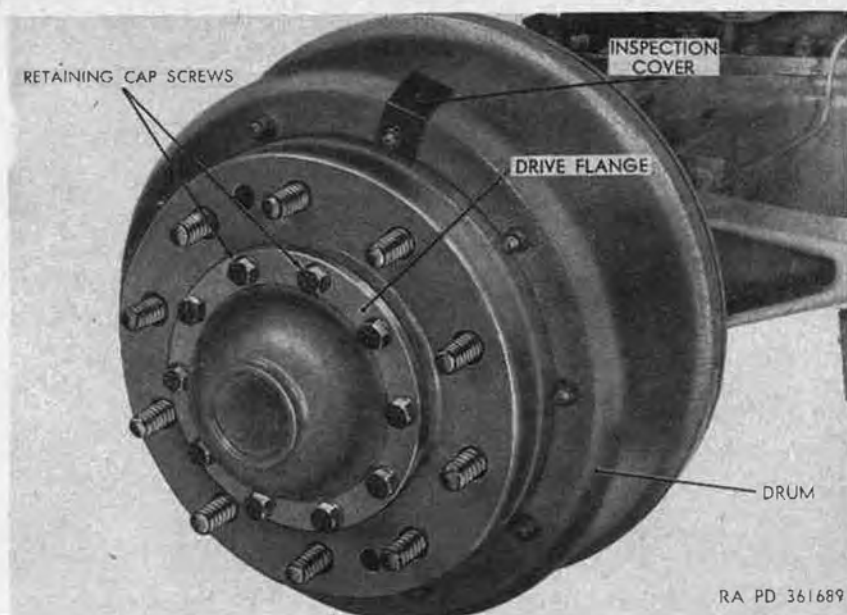

Figure 241. Hub and drum assembly with wheel and tire assembly removed.
- (1) With wheel and tire assembly removed, remove nut and lockwasher from stud securing inspection cover (fig. 241) to brake drum, and remove cover.
- (8) Position inspection cover (fig. 241), on brake drum stud, install lock washer and nut on stud and tighten nut.